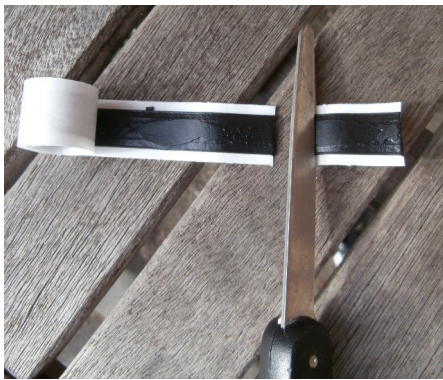
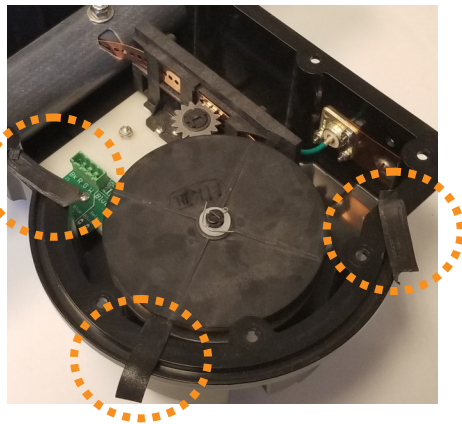

Figure 1.15
Figure 1.16
9. Cut three 1-inch strips of coax seal for each EHU as shown in **figure 1.15**, and place them at each end of the wire tray of the EHU, as well as one in the center (**figure 1.16**). This trough acts as a strain relief so that the cable will not be pulled out of the EHU. The remainder can be used to seal the driven element/loading coil SO239 connector and 4 conductor control cable.